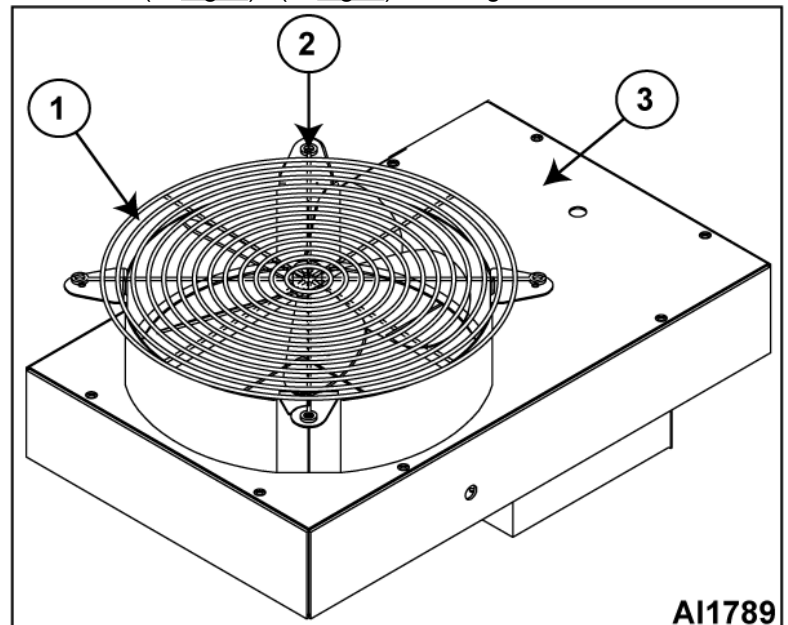
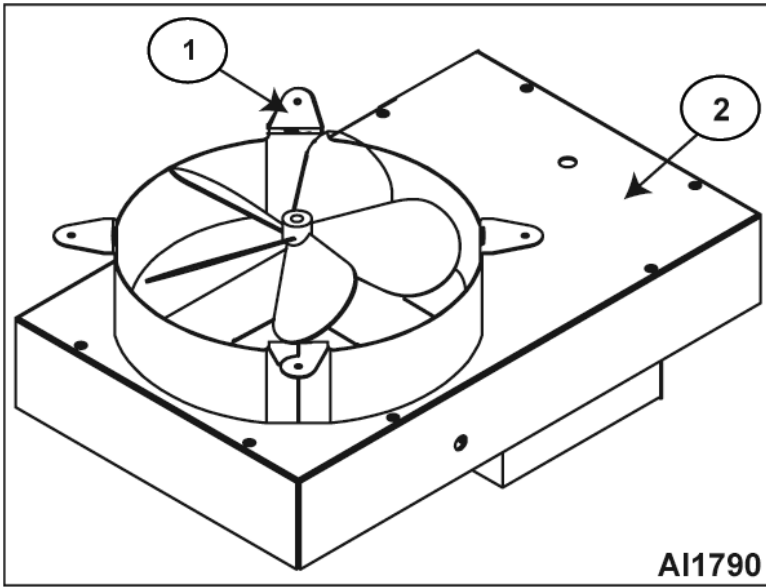

Fig. 5
Fig. 6
1. Remove four screws (2, Fig. 5) from the tabs securing fan grille (1, Fig. 5) to top of draft inducer (3, Fig. 5) / (2, Fig. 6) and lift grille off.
2. Bend the four exposed oven flue collar tabs (1, Fig. 6) vertically and secure the draft diverter to the oven flue collar with four screws.